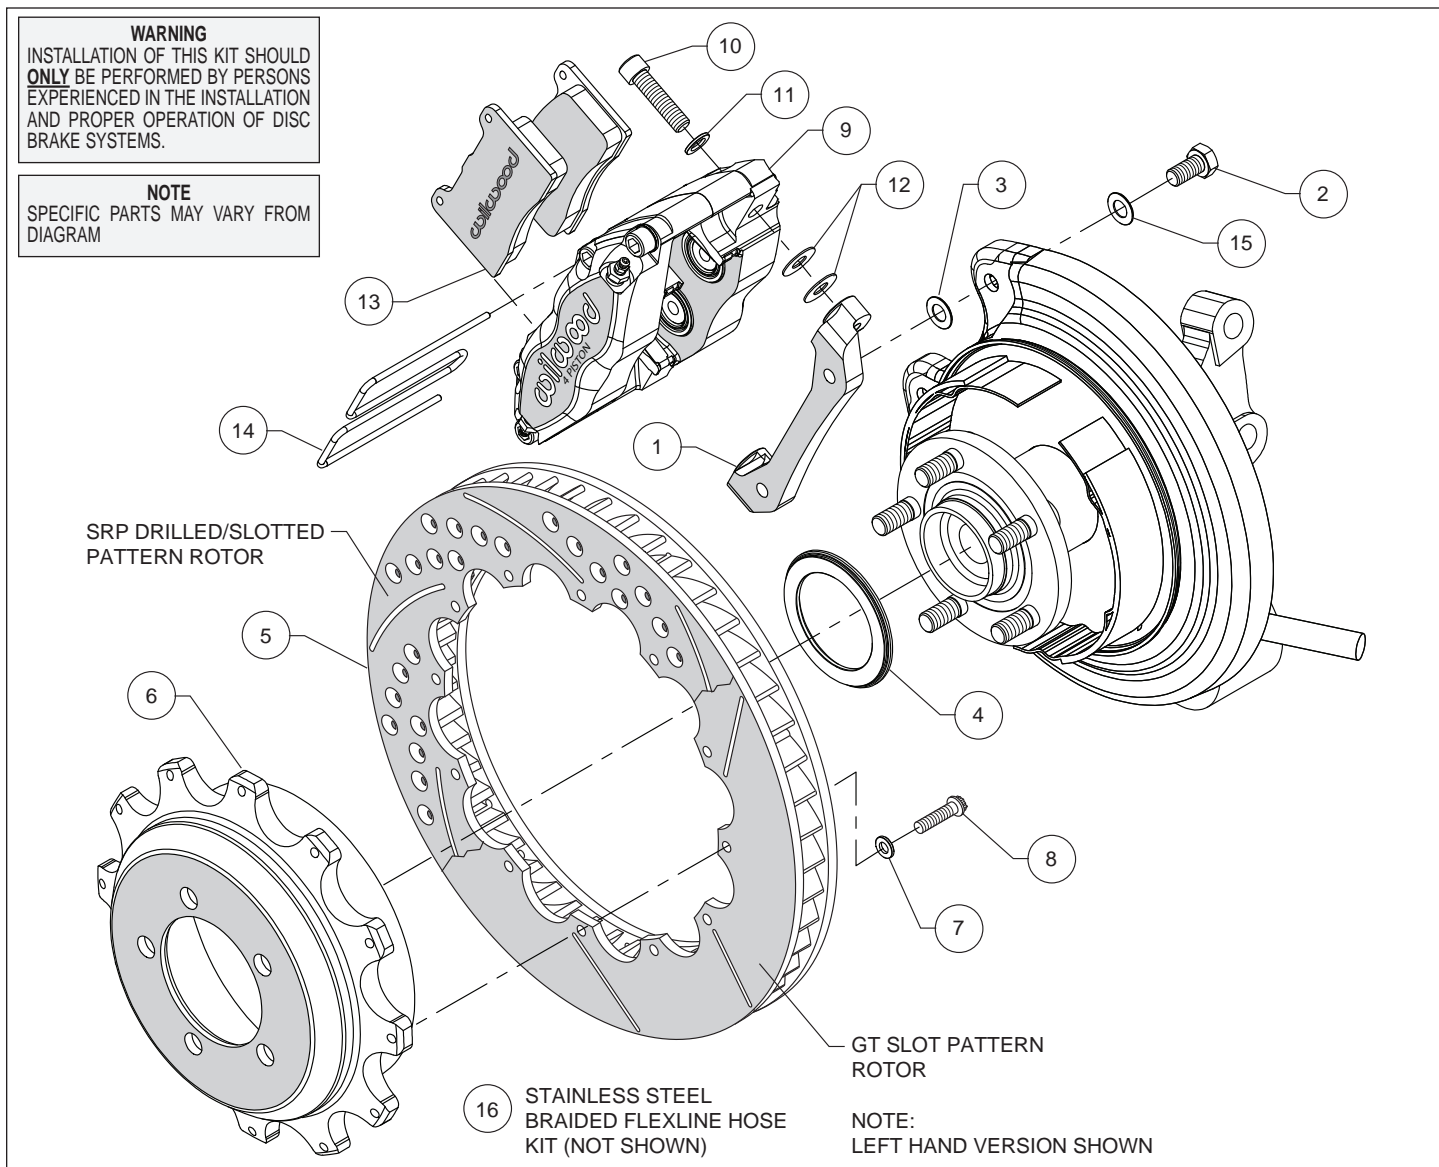
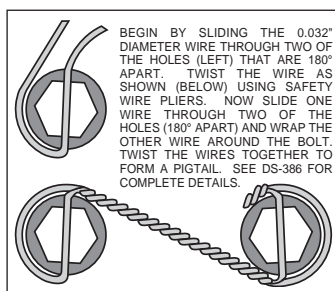

Figure 1. Typical Installation Configuration
Figure 3. Safety Wire Diagram
Assembly Instructions (numbers in parenthesis refer to the parts list and Figure 1 on the preceding pages):
- The caliper mount bracket (1) should initially be installed with clean, dry threads on the mounting bolts. Orient the bracket as shown in Figure 1 and Photo 3, and install using washers (15) and bolts (2). Initially place one shim (3) on each bolt between the bracket and upright, Figure 1. Temporarily tighten the mounting bolts. **NOTE: The bracket must fit squarely against the mount bosses on the upright.** Inspect for interference from casting irregularities, machining ridges, burrs, etc. Later, after the caliper alignment has been checked, the mount bolts will be secured using red *Loctite*® 271.
- Orient the rotor (5) and the hat (6) as shown in Figure 1 and Photo 4. Attach rotor to hat using bolts (8) and washers (7). Using an alternating sequence, apply red *Loctite*® 271 to the threads, and torque to 140 **in-lbs**. For an added measure of security, the bolts may be safety wired using standard 0.032 inch diameter stainless steel safety wire as shown in Figure 3. Please refer to Wilwood's data sheet DS-386 (available at www.wilwood.com/Pdf/DataSheets/ds386.pdf) for complete safety wire installation instructions.
- Slide the rotor registration adapter (4) onto the axle register on the axle hub with the smaller O.D. facing outward, Photo 5. Slide the hat/rotor assembly onto the axle hub. **NOTE: The hat must fit flush against the axle hub flange or excessive rotor run out may result.** Install three lug nuts (finger tight) to keep the hat/rotor assembly in place while continuing with the installation.
- Mount the caliper (9) onto the bracket (1) using bolts (10) and washers (11), Figure 1 and Photo 7. Initially place two .035" thick shims (12) on each bolt between the caliper and bracket as shown in Figure 1 and Photo 6. Temporarily tighten the bolts and view the rotor through the top opening of the caliper. The rotor should be centered in the caliper, Photo 8. If not, adjust by adding or subtracting shims (3) between the bracket and the upright. Once the caliper alignment is correct, remove the bracket mounting bolts one at a time, apply red *Loctite*® 271 to the threads, and torque to 35 ft-lb.
- Install the disc brake pads (13) into the caliper, with the friction material facing the rotor, as shown in Photo 9. Check that the top of the brake pad is flush with the outside diameter of the rotor, Photo 10. If not, adjust by adding or subtracting shims (12) between the caliper and the bracket. After the caliper pad height